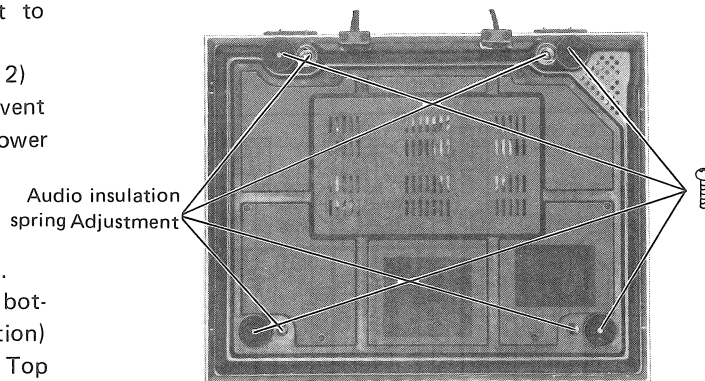

Fig. 2
6. Remove the 4 screws from the Insulator. (See Fig. 2)